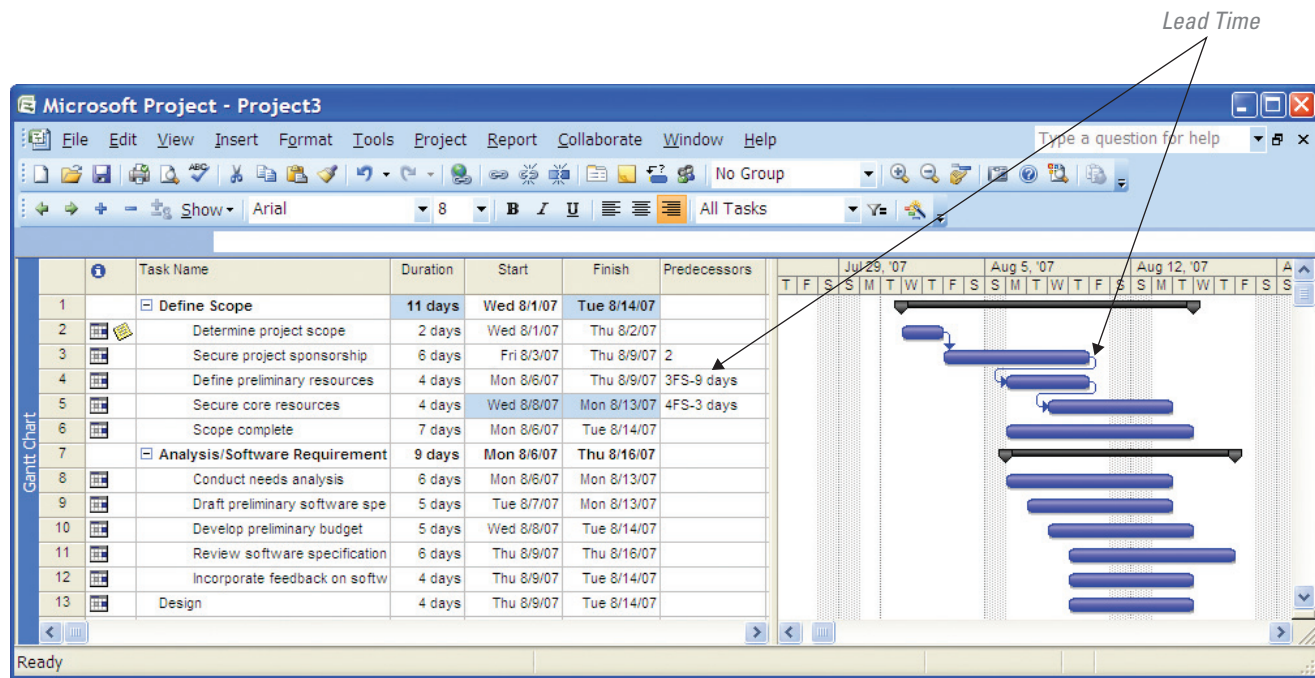

FIGURE T12.18
5. Click **OK**. Figure T12.18 displays a view of several lead-time tasks.